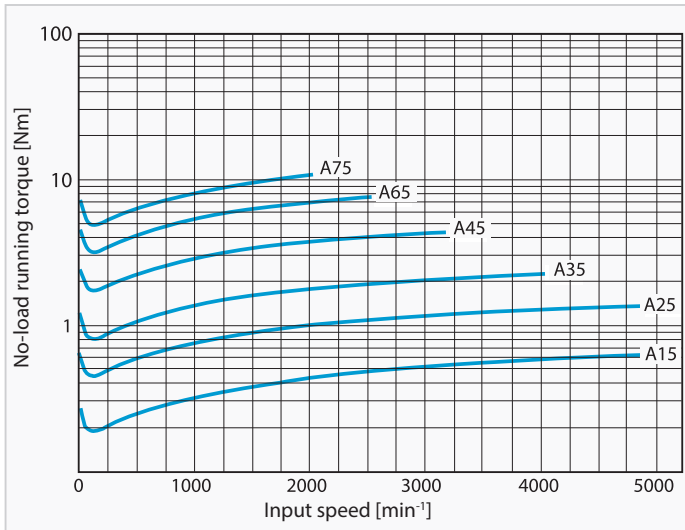
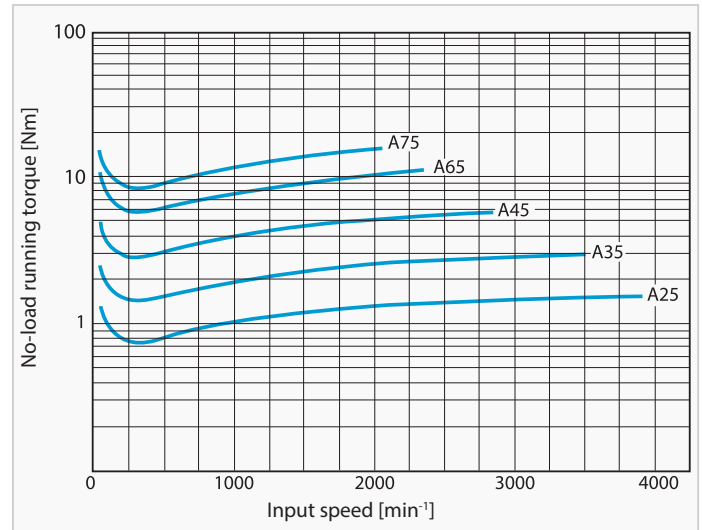

Fig. A-1 Input side no-load running torque (i 59-119)
Fig. A-2 Input side no-load running torque (i 29)
1. Fig. A-1 and Fig. A-2 show the average no-load running torques after gearbox is run in (not new condition).